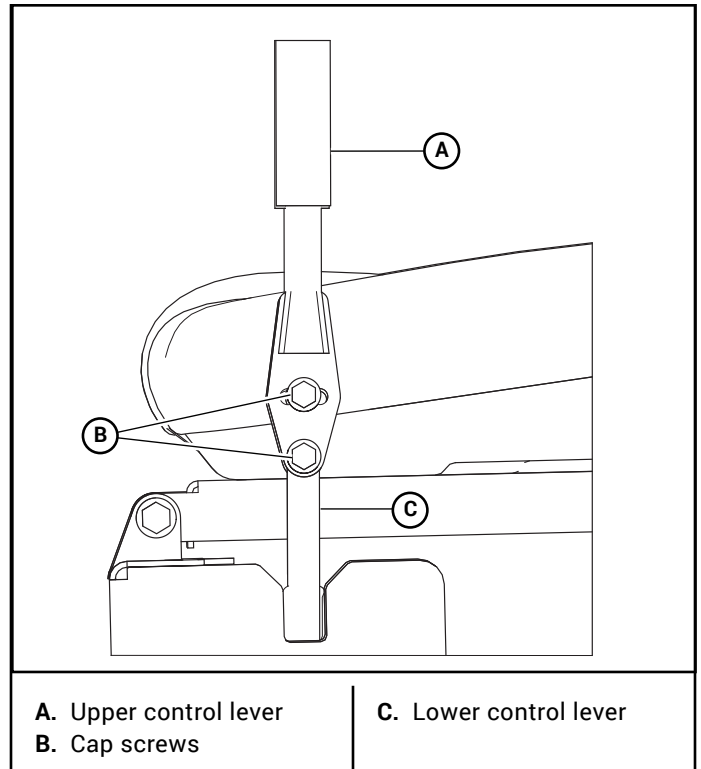

Figure 4-12
- A.** To pivot the upper control levers forward or rearward, loosen the cap screws that attach the upper control lever to the lower lever. Then, pivot the upper control lever. Tighten the cap screws. Figure 4-12